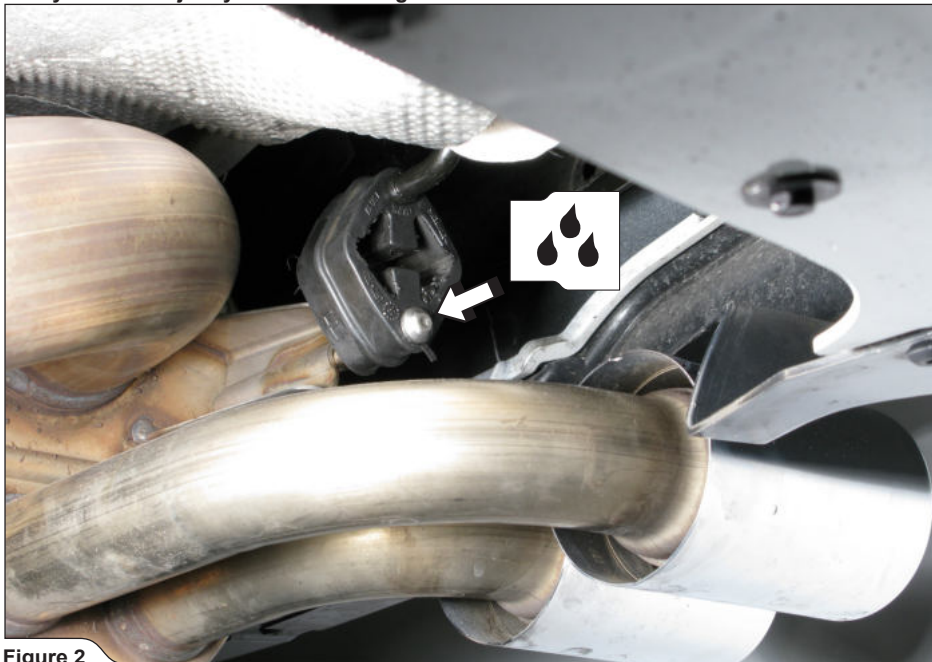

Figure 2
2. **For Slip-On:** carefully pull the rubber brackets off the muffler's brackets on both sides and remove the original muffler off the vehicle (**Figure 2**).